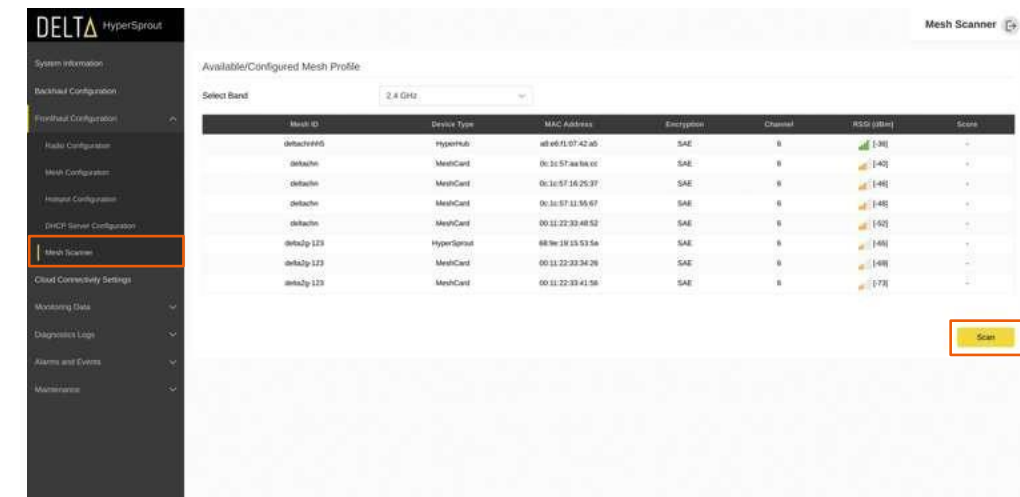

Figure 52: Mesh Scanner
- The **Mesh Scanner** page may be used to verify the available mesh profiles, **Device Types**, **RSSI**, and **Encryption** status. See *Figure 52*.